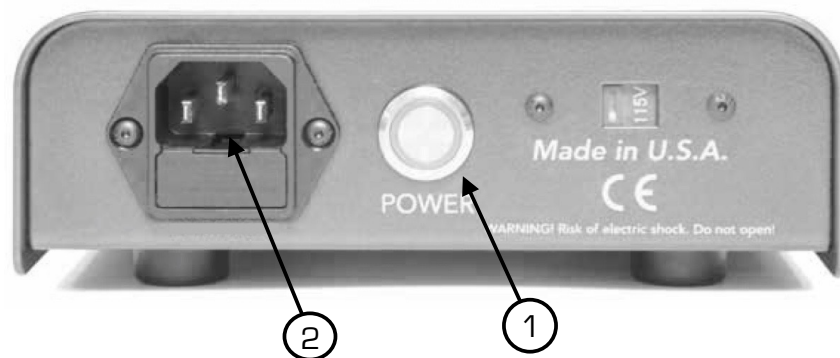

Figure 1. VDI Rear Panel Connections and Controls
REAR PANEL CONNECTIONS (See Figure 1)
REAR PANEL CONTROLS (see Figure 1, page 11) Power switch (1)